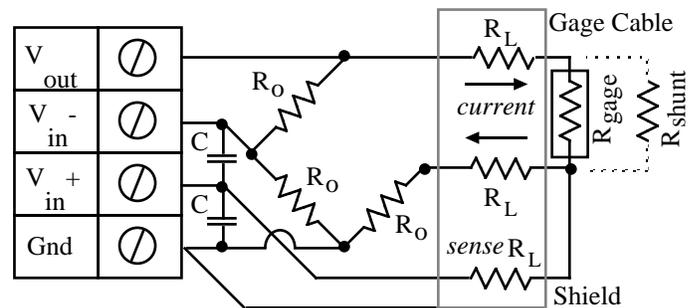

Fig 3.7 - Strain Measurement - Quarter Bridge Circuit
voltage for the bridge is supplied by either the instruNet Vout terminal or by an external voltage source. In figure 3.7,  $R_{\text{gage}}$  is a strain gage,  $R_0$  is either a fixed resistor of known value or a fixed unstrained strain gage of value  $R_0$ , and  $R_L$  is the lead wire resistance. instruNet calculates the value of the strain, returning "strain" engineering units, using the equations:
10. Wire your voltage source per figure 3.7, and refer to the steps at the beginning of this chapter for more information on how to set up your sensor.5,10